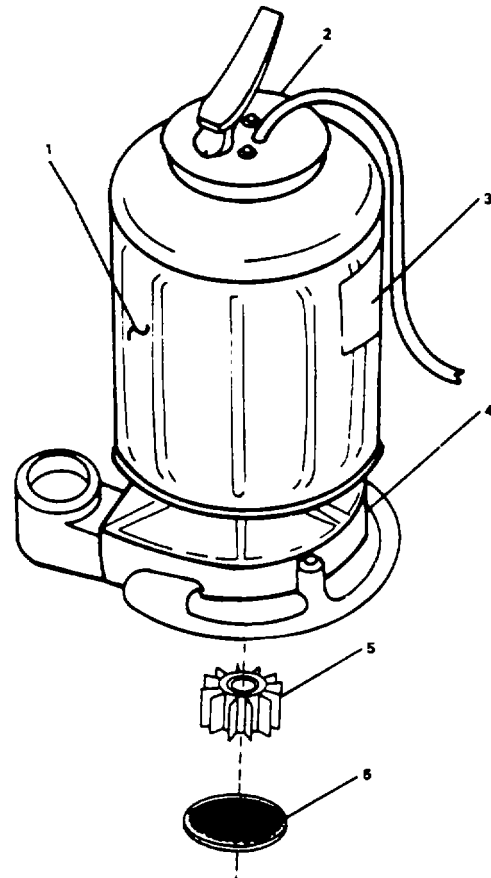

Figure 2-128. Replace Centrifugal Electric Submersible Pump.
Repair at this level of maintenance is normally by replacement of the centrifugal electrical submersible pump (1, Figure 2-128). The following procedure is for replacement of individual components.
- a. Remove attaching hardware and cover (2, Figure 2-128).
- b. Remove attaching hardware and base (4).
- c. Remove screen (6) from base (4).
- d. Remove impeller (5) from motor (3).
- Remove attaching hardware and cover (2, Figure 2-128).
- Remove attaching hardware and base (4).
- Remove screen (6) from base (4).
- Remove impeller (5) from motor (3).